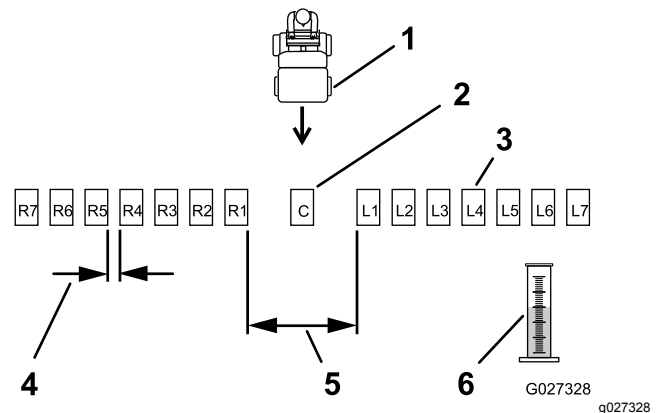
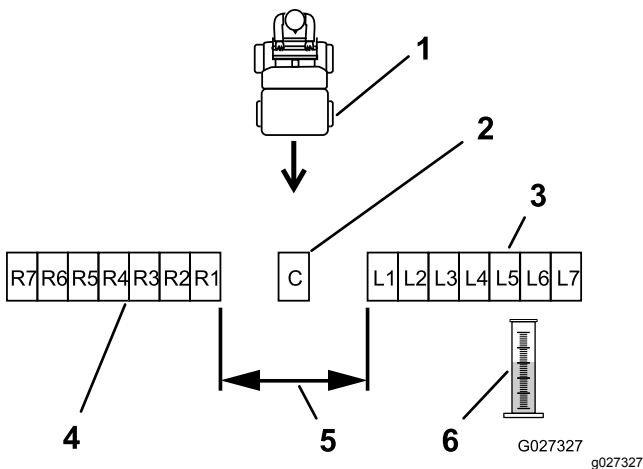

Figure 22
Figure 23
2. Place the remaining pans in a straight line as shown in Figure 22 or Figure 23.
- For larger granule materials: Space 6 additional pans, on each side, 12 inches (30 cm) apart (Figure 22).
Place 6 additional pans, on each side, with no gap in between each pan (Figure 23).
6. Label each graduated measuring cylinder to correspond with the distribution pans (such as L2, L1, Center, R1, R2); refer to Figure 22 and Figure 23.